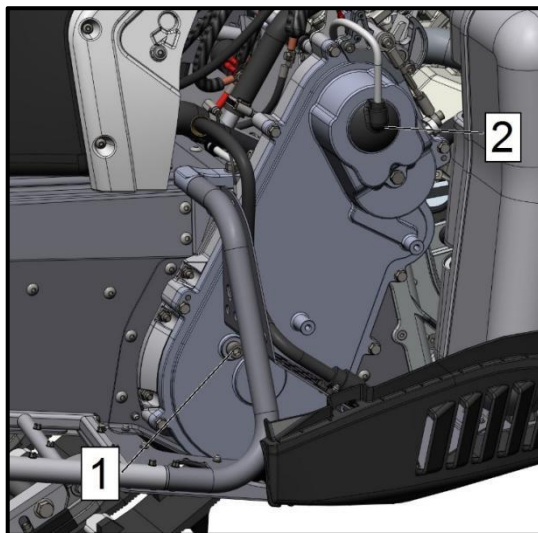

Fig. 27
2. Check the oil level in the transmission by unscrewing the 8mm hexagon control plug (gesture 1, Figure 27) on the front cover of the transmission.
2. Screw out the 8mm hexagon inspection plug on the front cover of the transmission (posture 1, Fig. 27).
4. Remove the rubber cover on the top of the checkpoint (Pos. 2, Fig. 27).